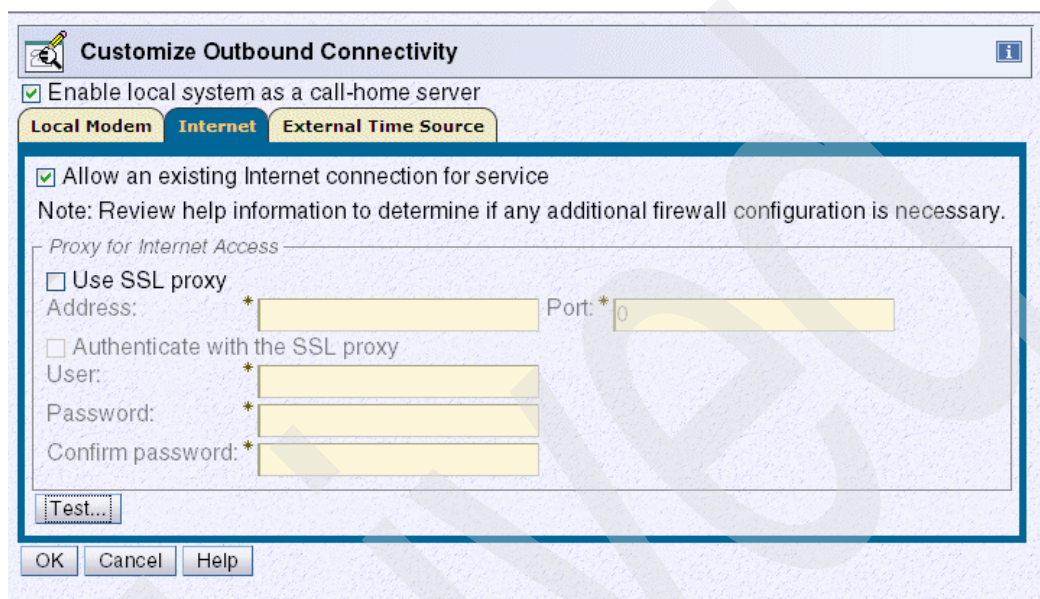

Figure 2-23 Internet connection tab
3. Select **Customize Outbound Connectivity** and click the Internet tab (Figure 2-23).